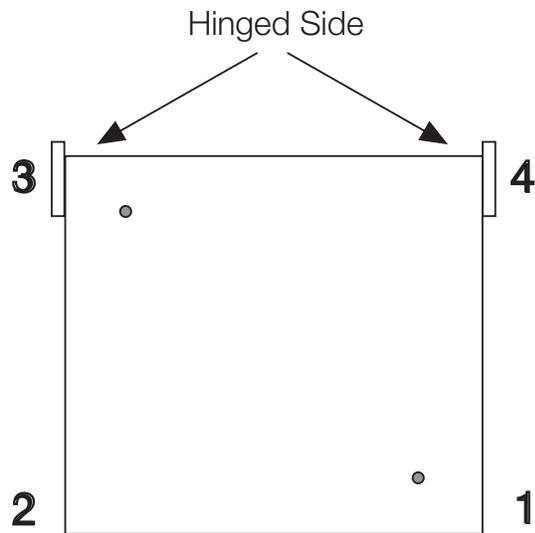
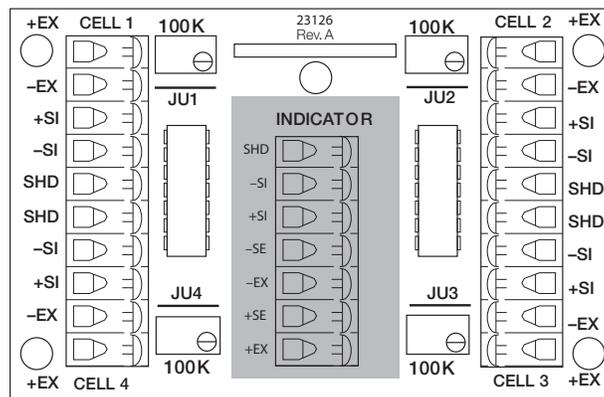

Figure 2-4. Corner Numbering - Top View
Figure 2-5. Junction Box Indicator Terminal
! Important Figure 2-4 is included as an example of a typical pit. Do not use this drawing for construction purposes.
12. Route the load cell cables through the fittings in the junction box (K).
13. Wire the cables to the junction box according to the corner numbering diagram (Figure 2-4 on page 8) and load cell wiring chart (Table 2-2 on page 8). Coil and store excess cable prior to connecting to the junction box.
1. Remove the junction box cover and identify the load cell terminals corresponding to each corner (labeled CELL 1, CELL 2, CELL 3, and CELL 4). See Figure 2-4 on page 8.
3. Thread the load cell cable through the conduit tubing and wire it to the junction box. See Figure 2-5 on page 8 and Figure 2-4 on page 8.